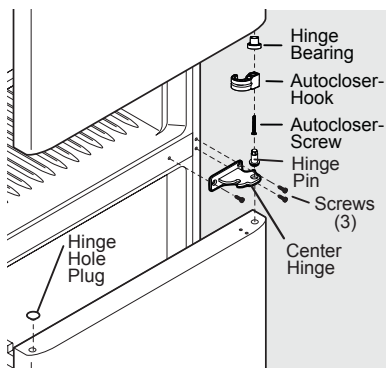

Figure 2
5. Unscrew the center hinge pin using an adjustable wrench and set aside (see Figure 2).
7. Remove the three center hinge screws using a T20 Torx Head screwdriver and set center hinge aside (see Figure 2).